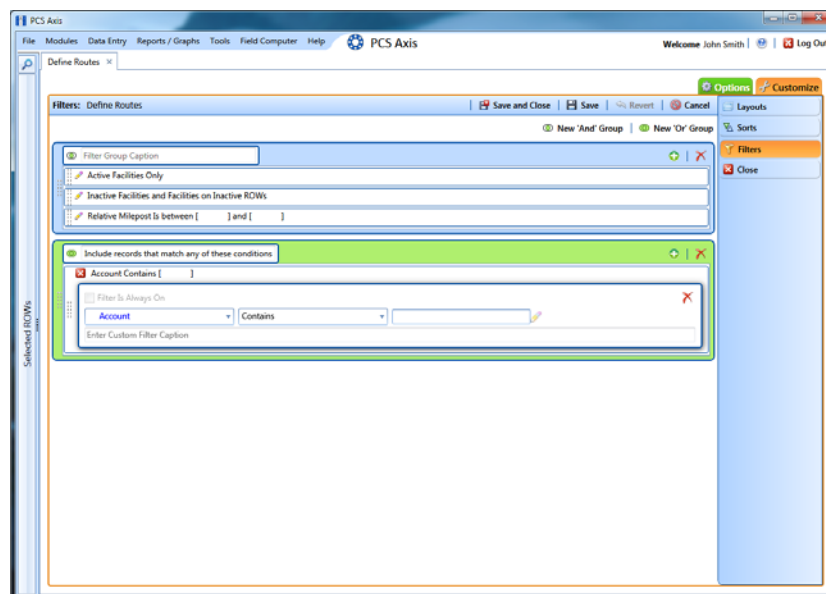

Figure 7-52. Filters
- 4 Click  **New 'Or' Group** to open a filter properties group box (Figure 7-52).